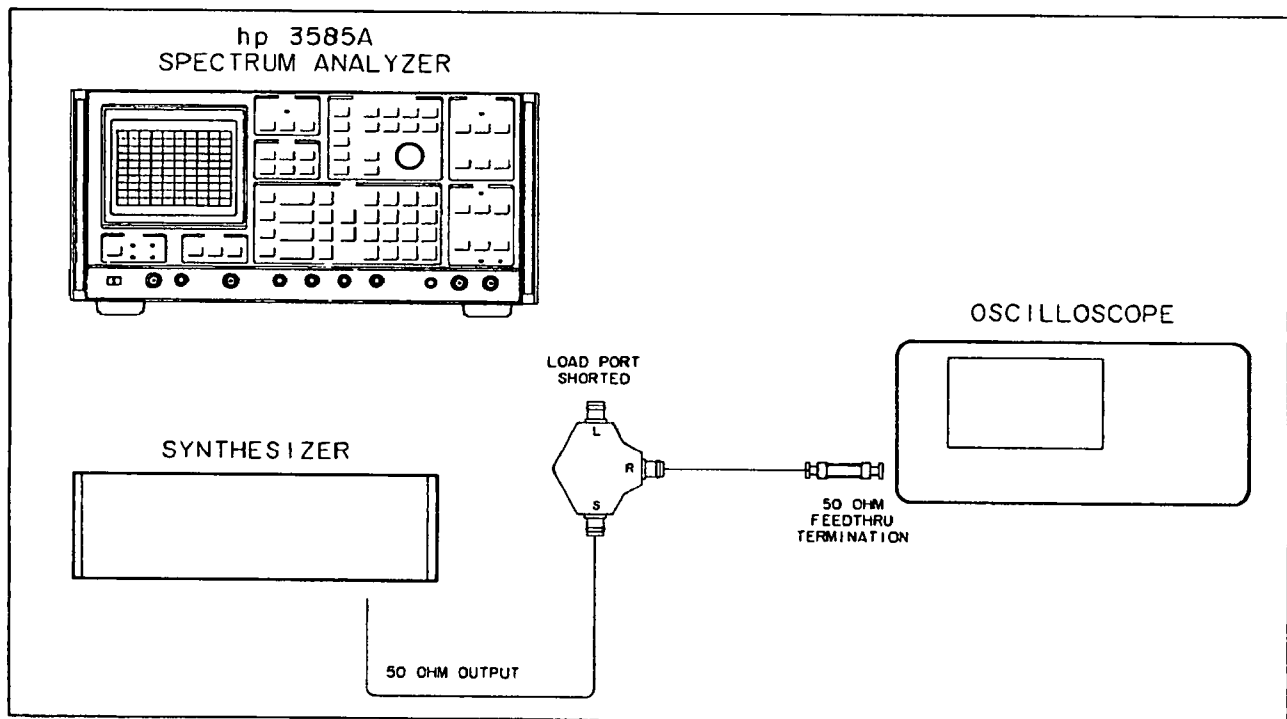

Figure 4-16. 50 Ω Return Loss Test (Operational Verification).
d. Connect the equipment as shown in Figure 4-16.